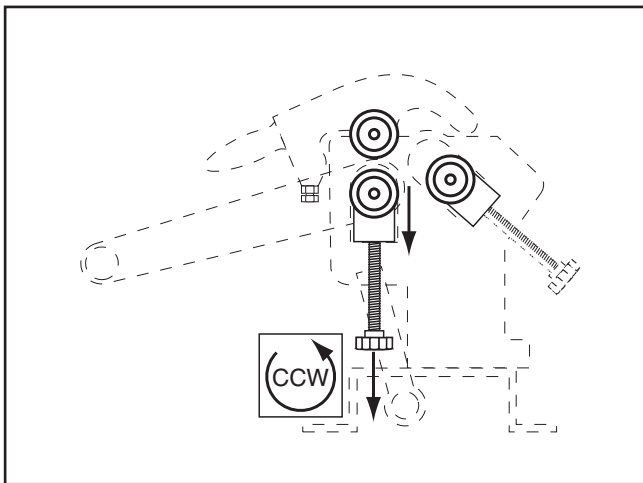

Figure 11. Bottom roller preparation.
1. Turn the thickness adjust knob to lower the bottom roller to approximately $\frac{1}{4}$ " below the top roller. Use calipers or a spacer to set the distance between the rollers evenly at each end (**Figure 11**).